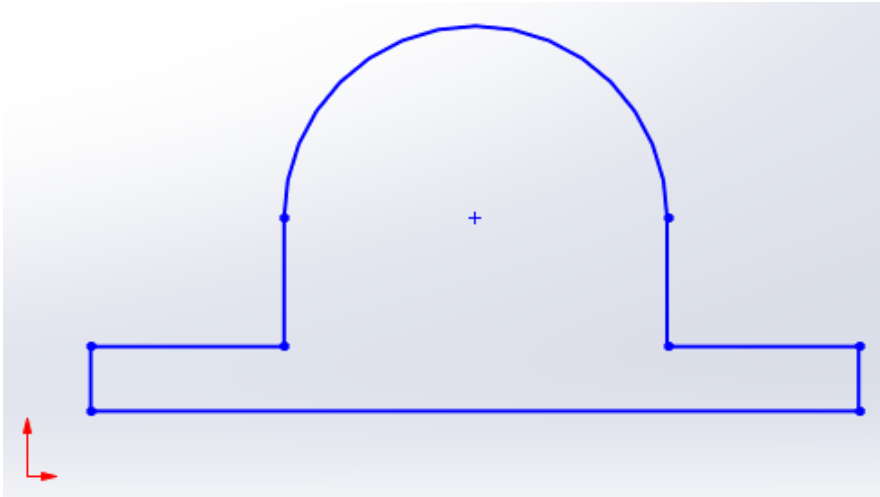

Figure 2-71 Outer loop of the sketch
15. Choose the **Zoom to Fit** tool from the **View (Heads-Up)** toolbar to fit the current sketch into the screen. The outer loop of the sketch is completed and is shown in Figure 2-71. Note that in this figure, the grid display and the **Shaded Sketch Contours** settings are turned off for better visibility.